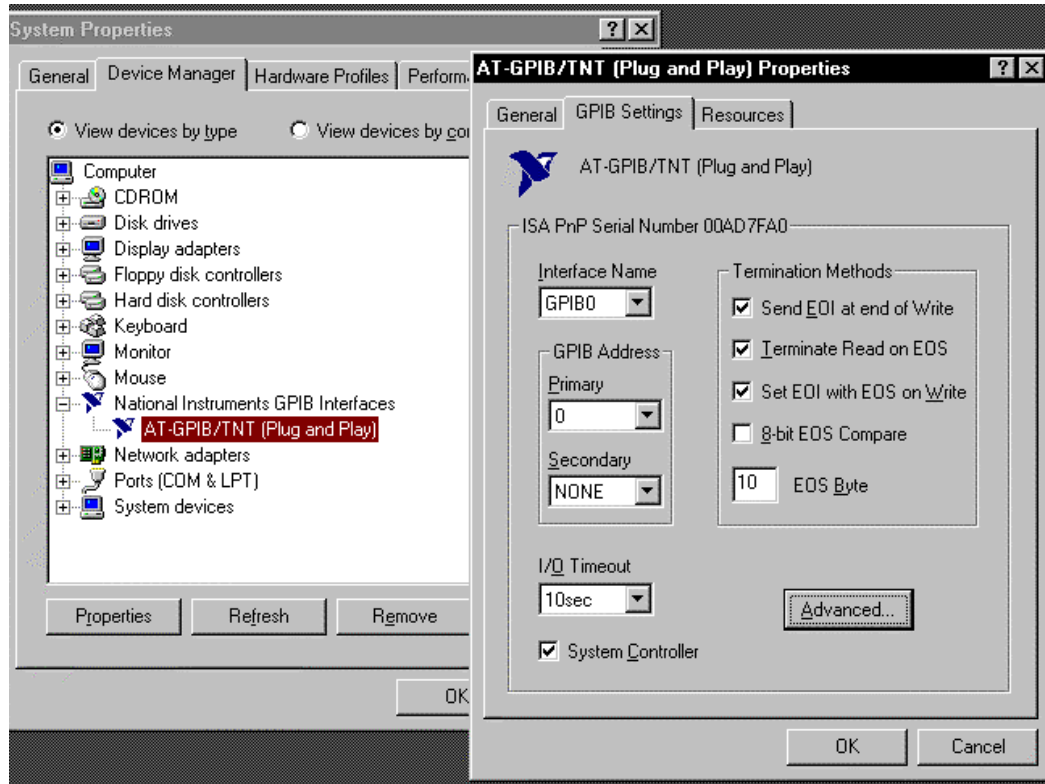

Figure 5-7. GPIB0 Setting Configuration
4. Configure the GPIB by selecting the System icon in the Windows Control Panel located under Settings on the Start Menu. Configure the GPIB Settings as shown in Figure 5-7. Configure the DEV12 Device Template as shown in Figure 5-8. Be sure to check the Readdress box.